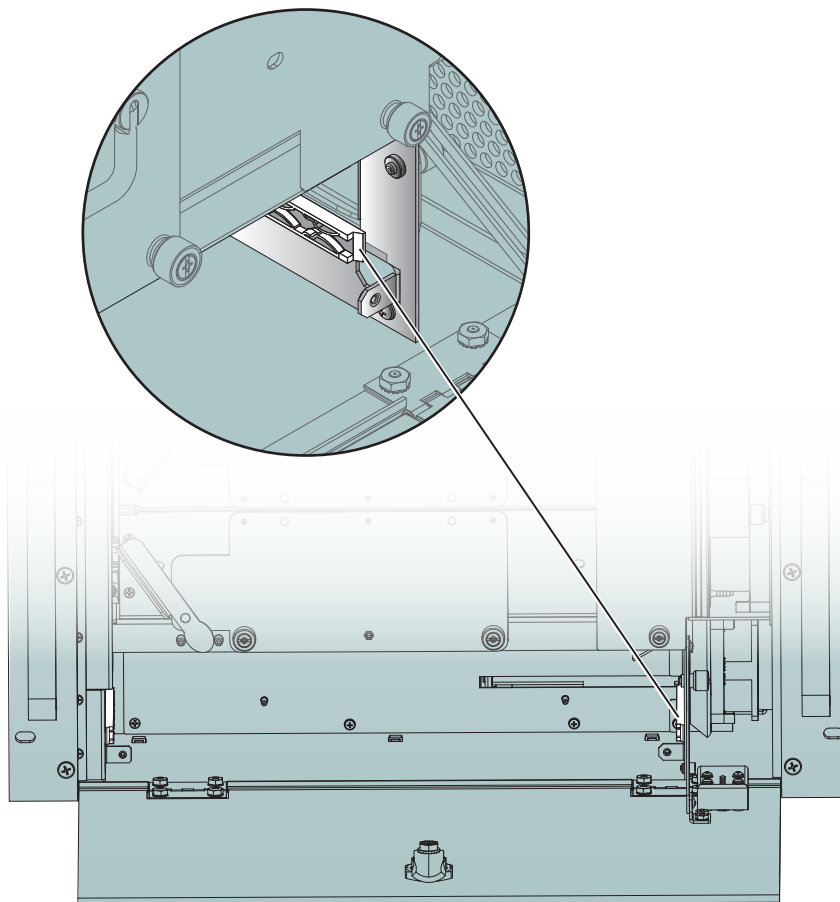

Figure 115. Tracks to Insert the SBC Assembly
1. Align the edges of the new assembly with the tracks inside the chassis on the right and left sides (see figure 115).